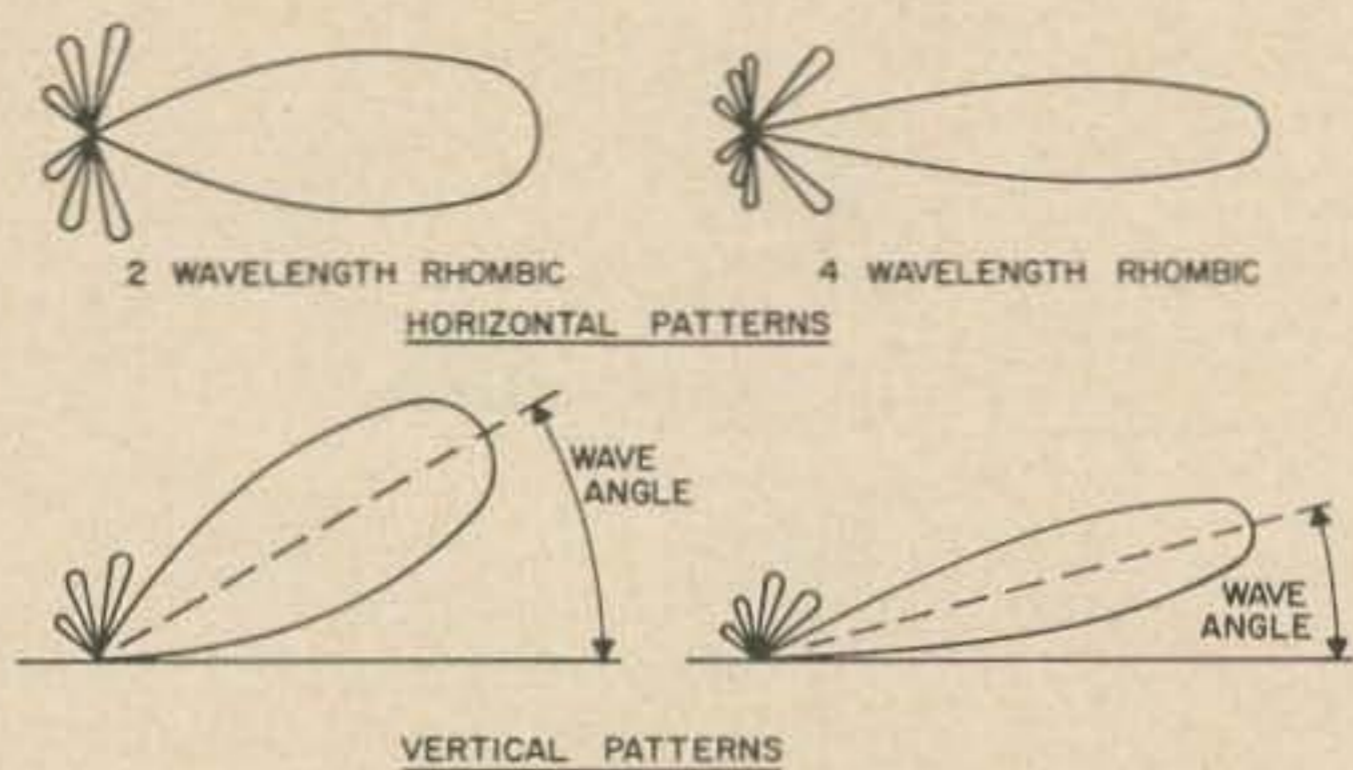

Fig. 5. Vertical and horizontal patterns of rhombics.
c. The horizontal and vertical patterns are interdependent, thus, for example, a rhombic designed to produce a narrow horizontal beam will have a fairly sharp and low vertical pattern. (See Fig. 5).